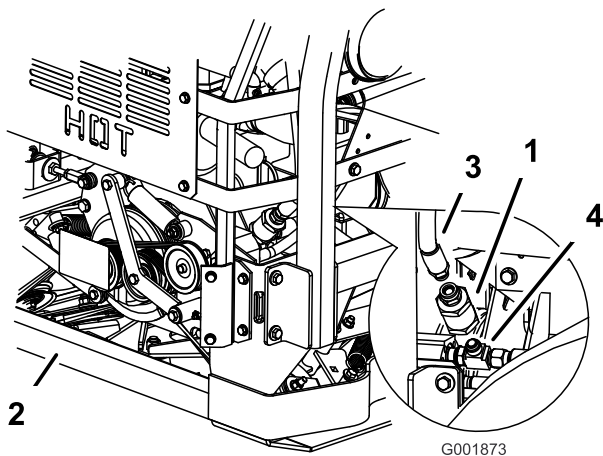

Figure 78
1. Place drain pan under filter, remove the hydraulic hose from the filter (Figure 78).
2. Remove the cooling fan hydraulic filter from the T-fitting on the bottom of the filter (Figure 78).
3. Install the filter to the T-fitting on the bottom and the hydraulic hose to the top (Figure 78).